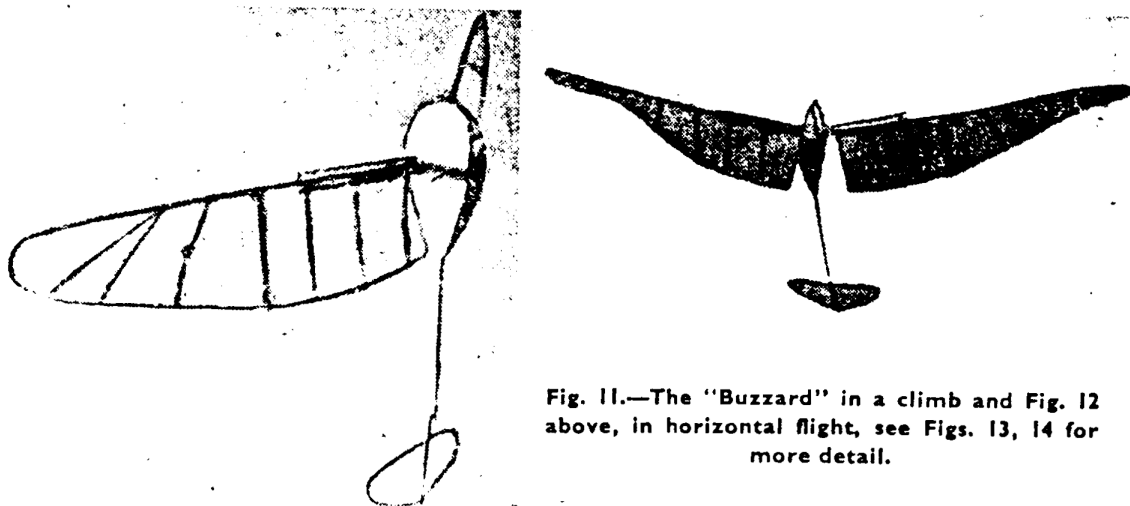

Fig. 11.—The "Buzzard" in a climb and Fig. 12 above, in horizontal flight, see Figs. 13, 14 for more detail.
E. von Holst's Buzzard (Fig. 11) had an overall length of 45 cm., a span of 97 cm. and a weight of 24 grams. Two strong rubber motors, one in front of the wings and one behind the wings powered the model. The sinking angle is approximately  $45^\circ$  (Fig. 12).